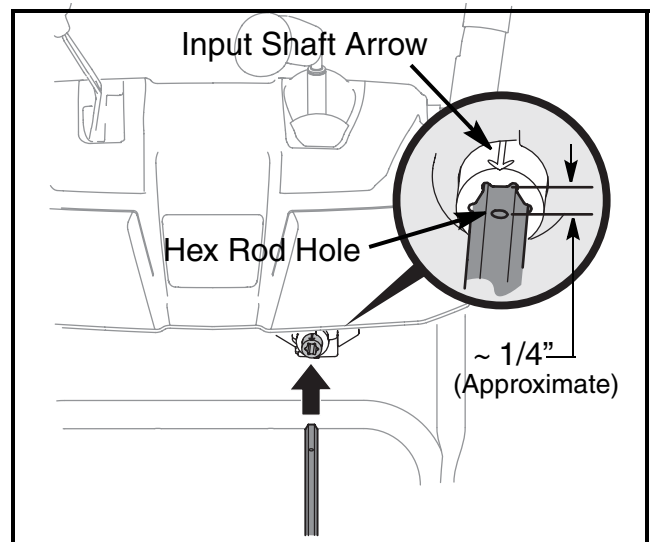

FIGURE 22
36. Insert the hex rod into the chute control assembly input shaft below the joystick. Make sure to line up the hole in the hex rod with the arrow on the input shaft. See Figure 22.
NOTE: The hole is a reference for aligning the rod with the indicator arrow on the chute control assembly input shaft. When the rod is properly inserted into the input shaft, the hole will be approximately a 1/4" from the end of the input shaft. See Figure 22.